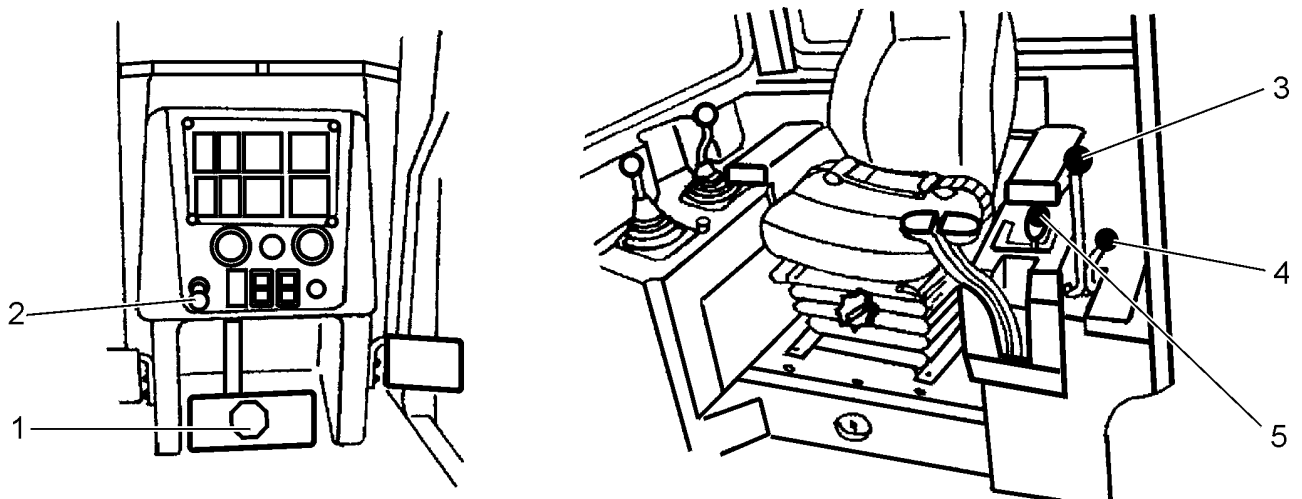

Fig. 4.18. Driving the Machine
**4.8. DRIVING THE MACHINE (Fig. 4.18)**
## DRIVING THE MACHINE (Fig. 4.18)